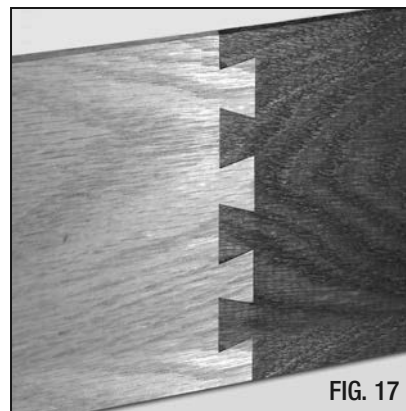

FIG. 17
1. When cutting an edge joint, the round-over created by the dovetail jig must be eliminated in order to join the two pieces of wood using a Dovetail-Joint. (FIG.17)